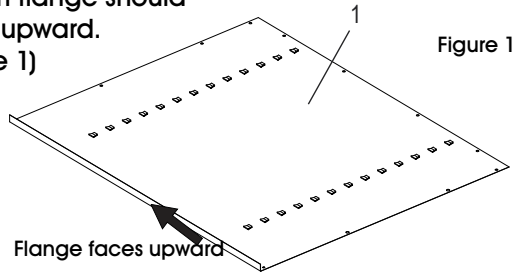

Figure 1
1. Place the back (1) on a protected surface. The bottom flange should be facing upward. (See Figure 1)